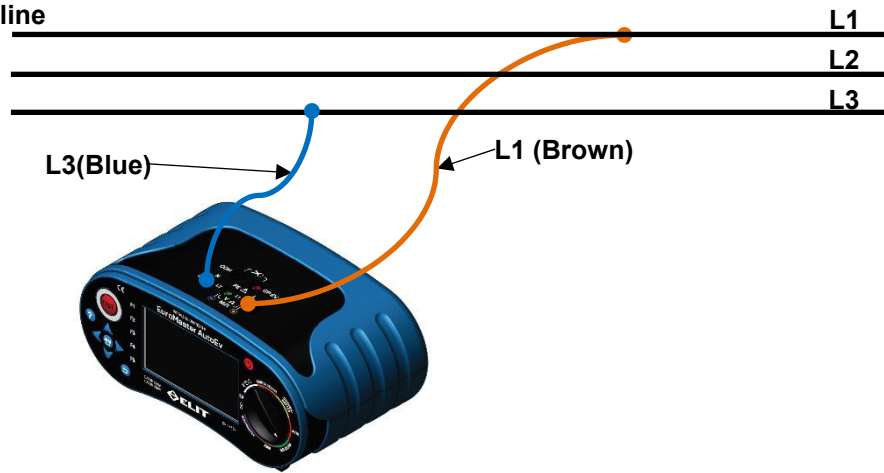

Figure 6.5.10 Z-line / L-L Connection.
- Connect the test leads as shown in Figure 6.5.10.